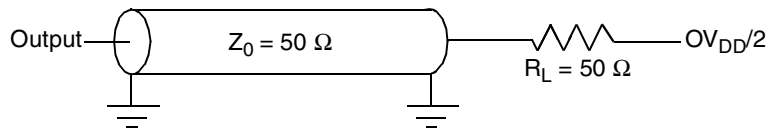

Figure 7. Alternate AC Test Load for the JTAG Interface
- All outputs are measured from the midpoint voltage of the falling/rising edge of TCLK to the midpoint of the signal in question. The output timings are measured at the pins. All output timings assume a purely resistive 50-Ω load (see Figure 7). Time-of-flight delays must be added for trace lengths, vias, and connectors in the system.
Figure 7 provides the AC test load for TDO and the boundary-scan outputs of the MPC7448.